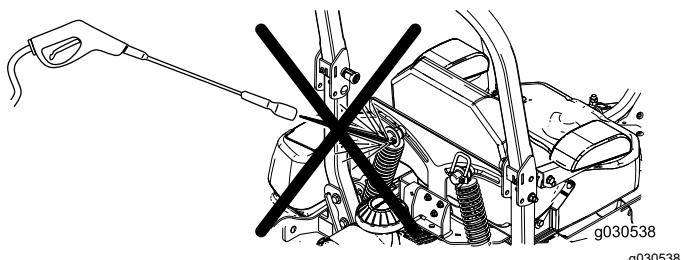

Figure 97
**Note:** Do not clean the shock assemblies with pressurized water (Figure 97).